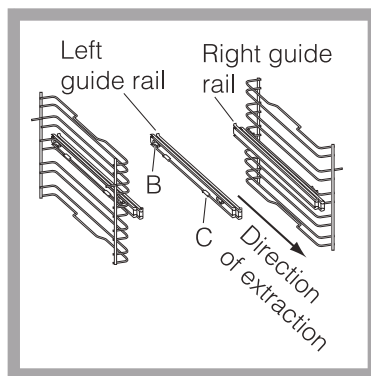

Fig.2
- Now, shutting the door slightly, you can lift it out by pulling out the hooks “A” as shown in figure 2.
2. Choose which shelf to use with the sliding rack. Pay attention to the direction in which the sliding rack is to be extracted, position joint B and the joint C on the frame. (See Fig.2)